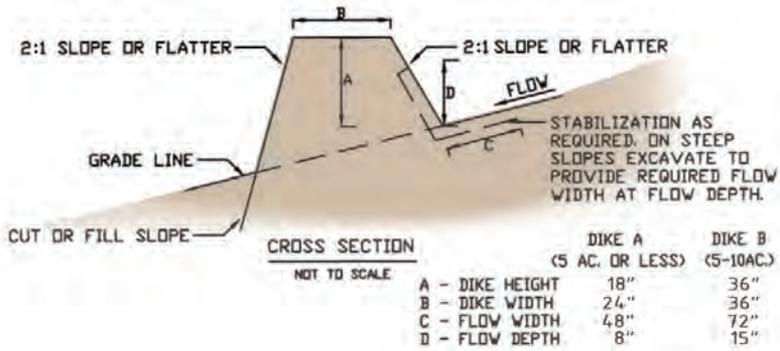

Figure 3.1. Earth berm cross section for different sized drainage areas.
**Berms** or dikes are typically mounds of compacted soil or sand bags placed at the top or base of slopes, along the site perimeter, or across exposed areas (Figure 3.1).